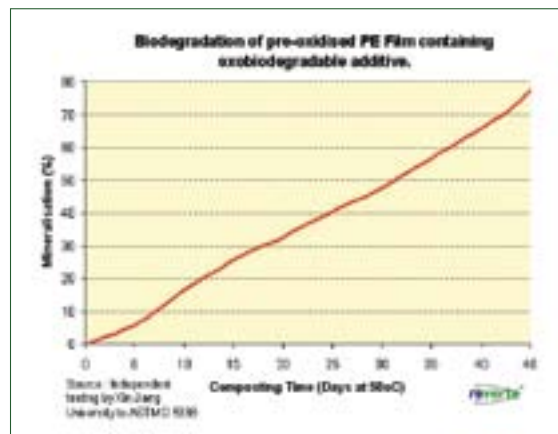

FIGURE 4: MINERALISATION DATA
A specific result, obtained from polyethylene agricultural mulch film may be found in Figure 4.
■ **Agricultural Mulch Film** OBD film has been used in many different crop types including tobacco, maize, potatoes and peanuts. At a slower rate the film will be completely bio-digested, eventually producing CO₂, H₂O and Biomass. (see Figure 4)